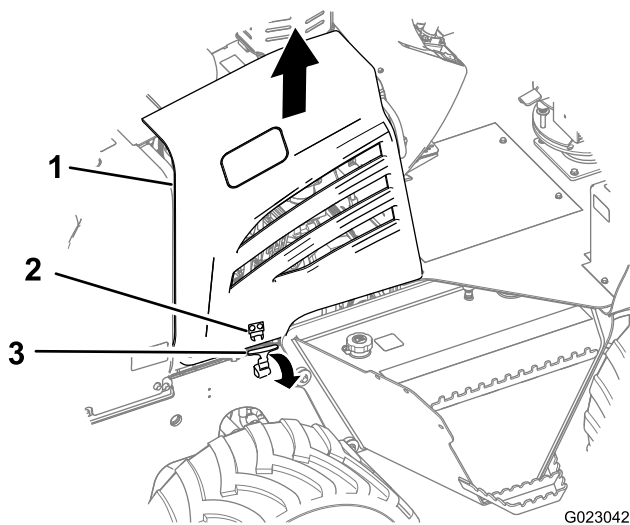

Figure 37
2. Pull up on the hand grip of the panel latch, and swing the latch free from the anchor bracket (Figure 37).
3. Lift the side panel straight up and remove it from the machine (Figure 37).
4. Pull the hand grip of the panel latch outward, then pivot it up until it aligns in the anchor bracket (Figure 37).